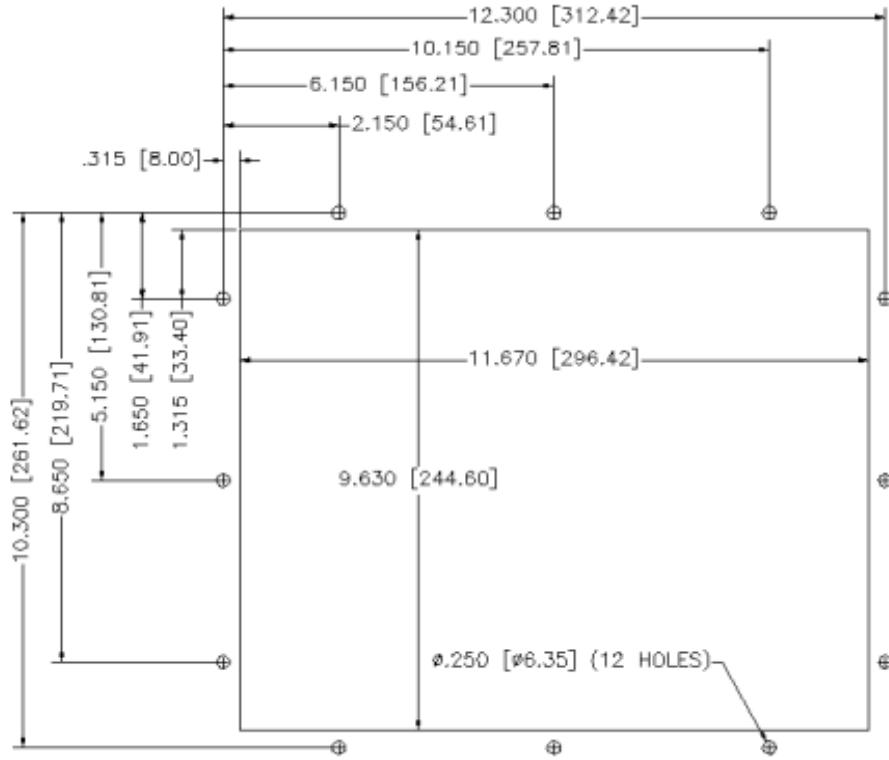
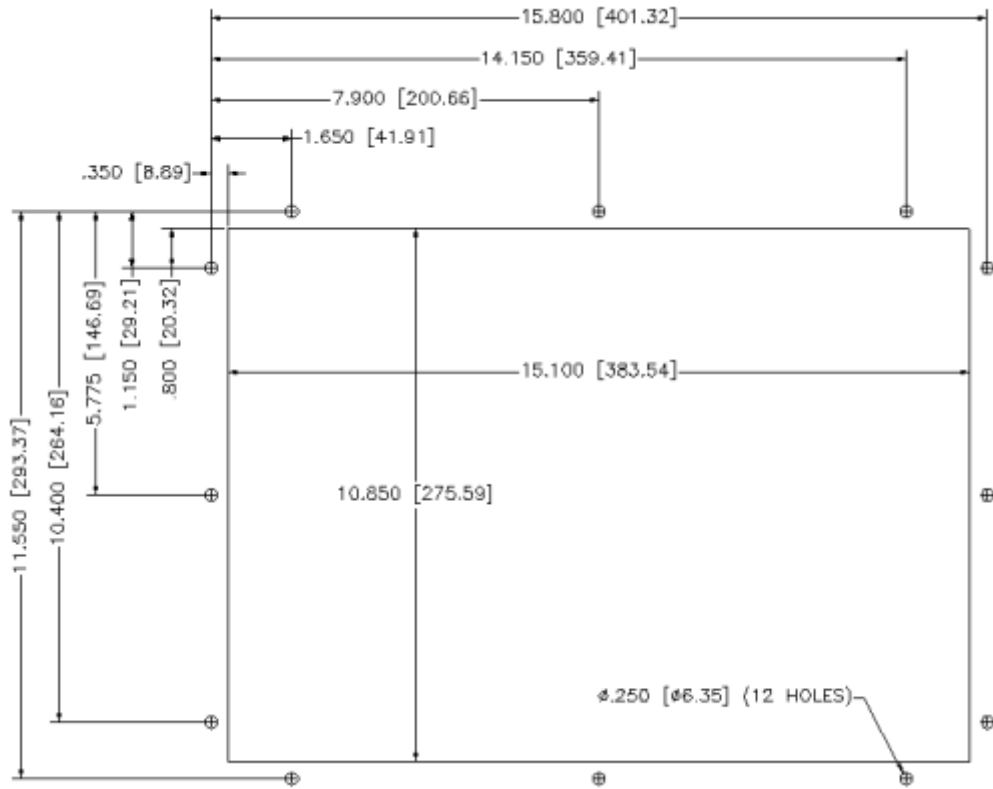

Figure 2-1. 4612T System Cutout Dimensions (inches [mm])
Figure 2-2. 4612KPM(T) System Cutout Dimensions (inches [mm])
2. Create a cutout in the enclosure (see Figure 2-1, Figure 2-2, Figure 2-3, and Figure 2-4) in *System Cutout Dimensions*.